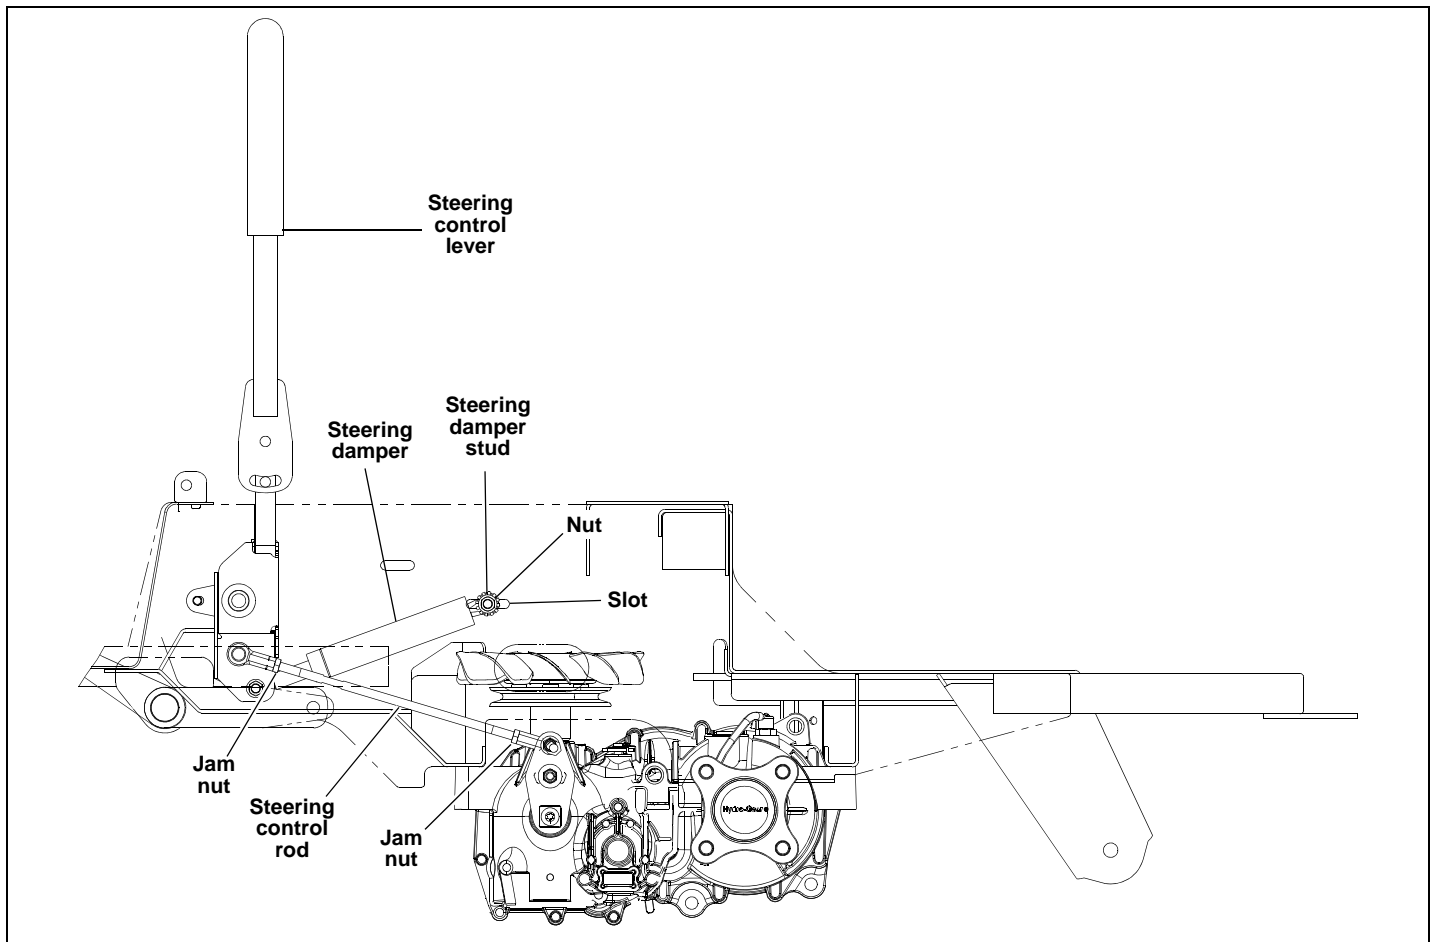

Figure 4-5
4. Loosen the jam nuts on each end of the steering control rod assemblies. Figure 4-5
6. Loosen the nuts on the rear steering damper ball studs. The dampers must be allowed to slide in the slots in the mower frame. Figure 4-5
8. Beginning with the right side of the mower, adjust the steering control rod so that the right side wheel starts rotating forward while holding the steering control lever in the neutral position. Now, adjust the steering rod back the opposite direction to the point when the wheel stops rotating. From that point, turn the steering rod back again ½ turn. This ensures that the steering rod is adjusted so that the transmission control arm is centered in the neutral band of the transmission. Figure 4-5
Tighten the nut on the damper's rear ball stud. Once this nut is tightened, when the steering control lever is in the reverse position and then released, the steering control lever should return to the neutral position. Figure 4-5